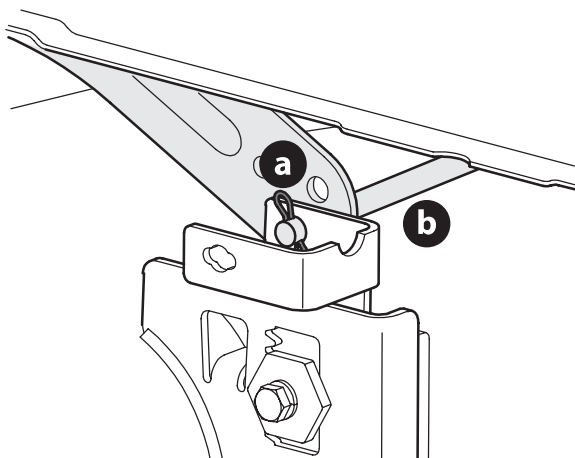

Figure 27
- Looking at the cutting deck from the left side of the tractor, locate the bow-tie pin (a) that secures the deck support rod (b) on the rear left side of the deck (Figure 27 on page 27). Remove the bow-tie pin (a) that secures the deck support rod (b), and carefully remove the deck support from the deck lift arm.